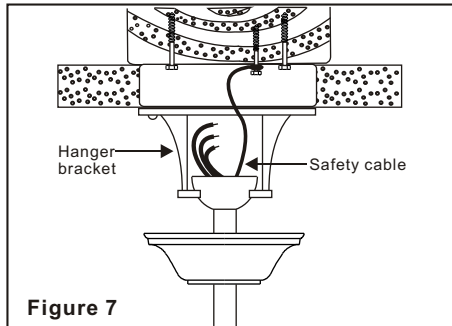

Figure 7
Step 8. Hanging the assembled fan onto the mounting bracket, place the downrod ball into the mounting bracket. Rotate fan until the slot of the downrod ball locks into the tab of the mounting bracket. (Figure 7)
Step 9. Secure the safety cable to the building structure as shown in Fig.7